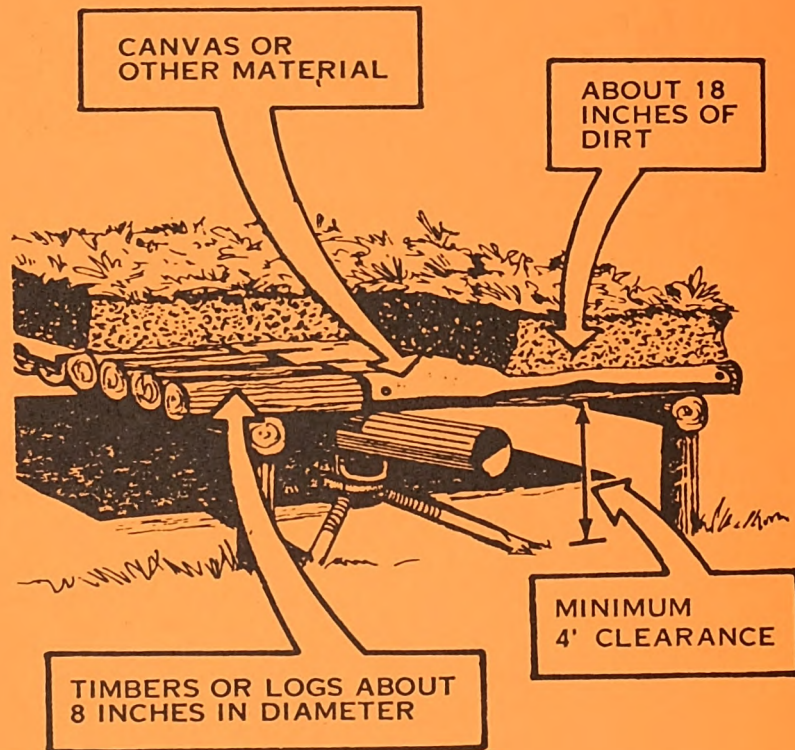

Figure 4.
5. Construct overhead cover. Use logs, planks, etc., which will support at least 12 inches of dirt. Dig a cave-like area big enough to get under (figure 4).